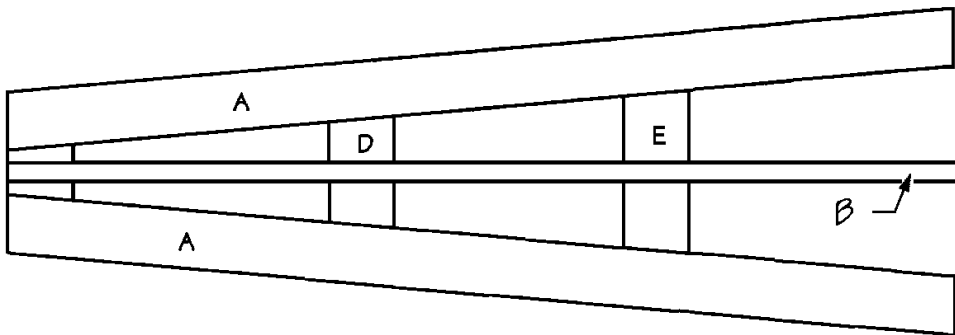

Figure 4
4. Turn the side assembly upside down, so that the Verticals (A) are on the top. Place one Center Vertical (B) between the two Verticals (A), on top of the short Top, Middle, and Bottom Supports (C, D, and E), as shown in *Figure 4*. Apply glue to the meeting surfaces, and nail through the Center Vertical (B) into the short Top, Middle, and Bottom Supports (C, D, and E), using a 1-1/4" finish nail on each joint.